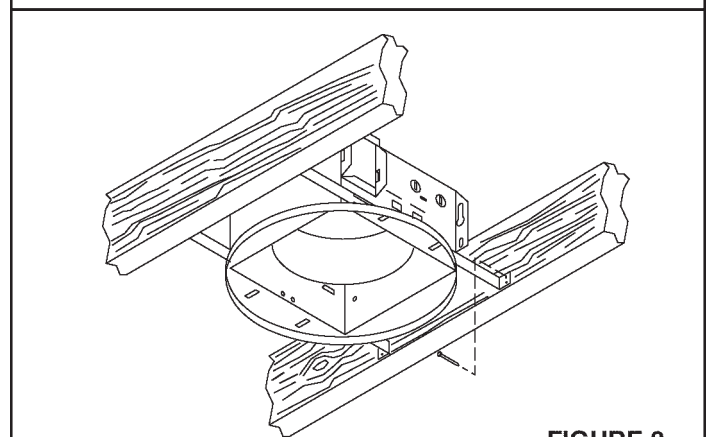
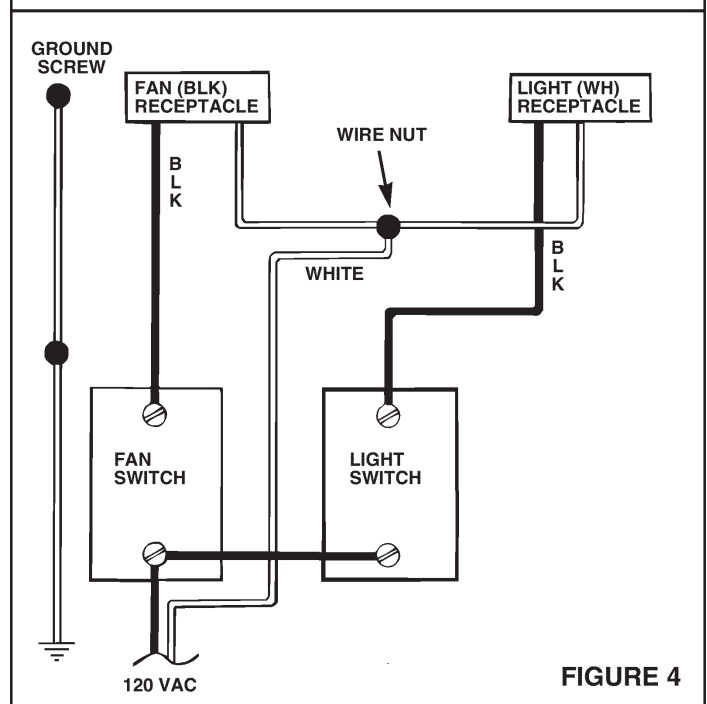

FIGURE 3
FIGURE 4
Refer to Figure 3.
4. Refer to Figure 4. Connect white wires from the fan and light receptacles to white (neutral) wire from the supply. Connect black wire from fan receptacle (black) to wire from fan switch. Connect black wire from light receptacle (white) to wire from light switch.
**WIRING AND DUCTING:** Plan ducting and wiring BEFORE proceeding with installation. Refer to Figures 4 and 5 for wiring and Figure 3 for ducting.